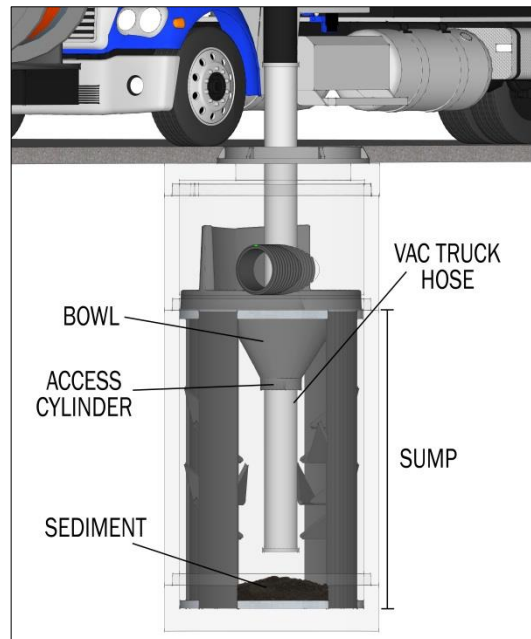

Figure 1
2. Use a vacuum truck or other similar equipment to remove all water, debris, oils and sediment. See figure 1.